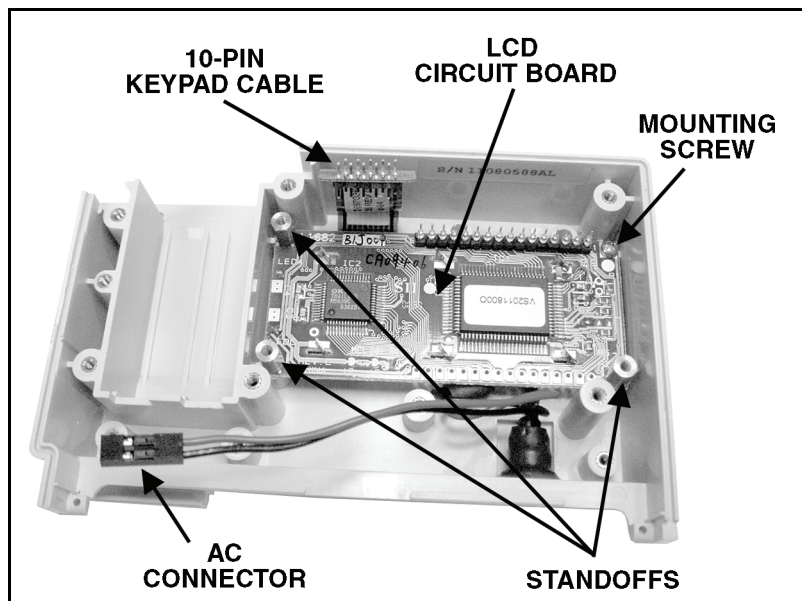

Figure 6-18. LCD Module Installation
2. Refer to Figure 6-18. Set the LCD Module in the Front Case recess over the ESD Shield as shown.
6. Route the AC connector wires as shown in Figure 6-18. The ferrite must be positioned under the LCD Module.